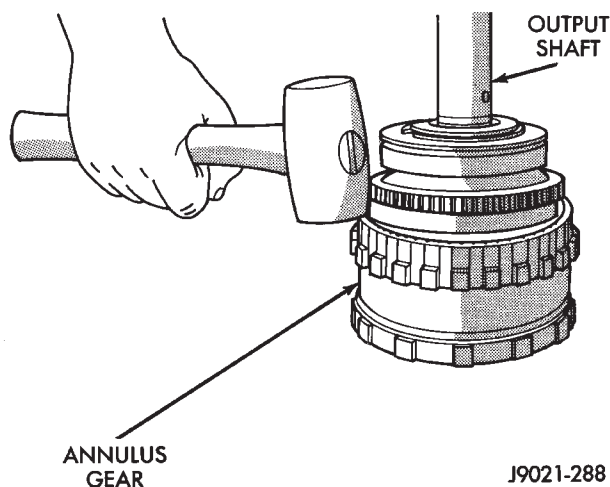

Fig. 326 Removing Annulus Gear
(19) Remove annulus gear from output shaft (Fig. 326). Use rawhide or plastic mallet to tap gear off shaft.
(20) Remove output shaft front bearing if not previously removed.